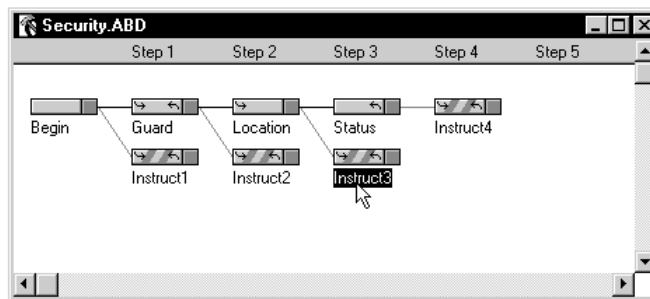

Figure 4-71 "Instruct3" Handler Selected
44. Select the "Instruct3" Handler (Figure 4-71). The "Instruct3" Handler will be stepped to if the user does not scan a valid status bar code. In this example we are assuming the status bar codes are on the scanpad being carried by the guard, so we will use **Scan Status bar code on scanpad.** as our instruction message.